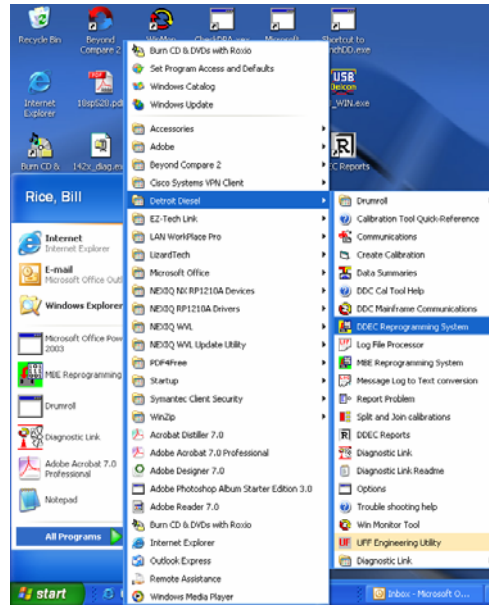

Figure 2
2. The DDEC Reprogramming system can also be launched by clicking once with the left mouse button on **Start**, then Programs, then Detroit Diesel, then "DDEC Reprogramming System"(Figure 2).